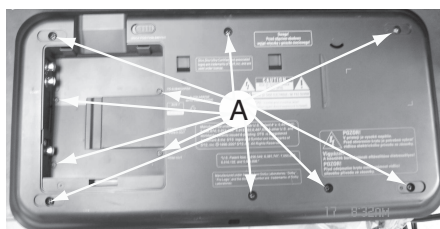

Figure 2
- 2) Loosen 11 screws "A" as shown in figure 2.